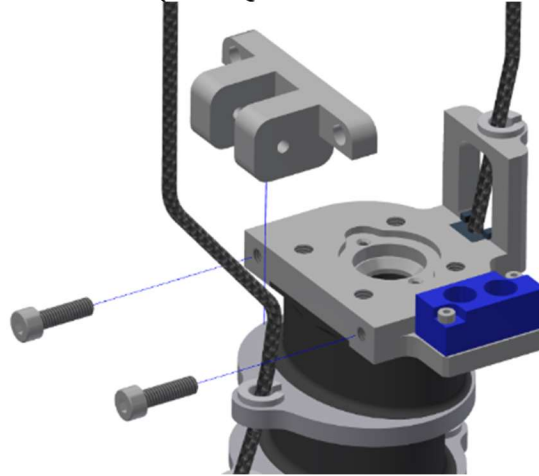

Figure 4-26. Remove the rear pulley assembly (474-2330) from the top of the neck column assembly by removing two M4 X 0.7 X 14 LG. SHCS
- 4.2.16 Remove the rear pulley assembly (474-2330) from the top of the neck column assembly by removing two M4 X 0.7 X 14 LG. SHCS (Figure 4-26). See disassembled assembly in Figure 4-26.